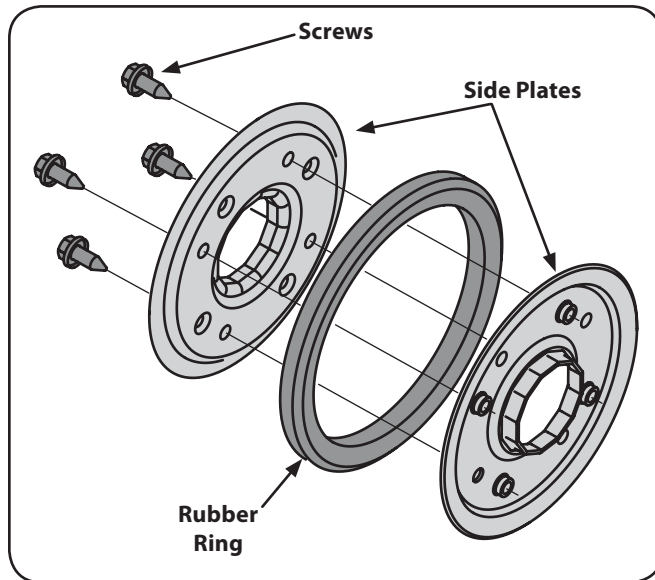

Figure 7-10
- Remove the four screws from the friction wheel assembly. See Fig. 7-10.